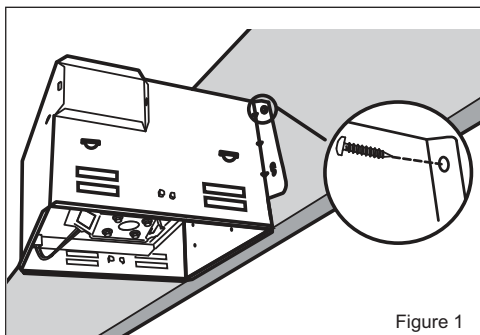

Figure 1
Position the housing so the bottom edge is flush with the finished ceiling. Secure with four (4) screws (Figure 1).